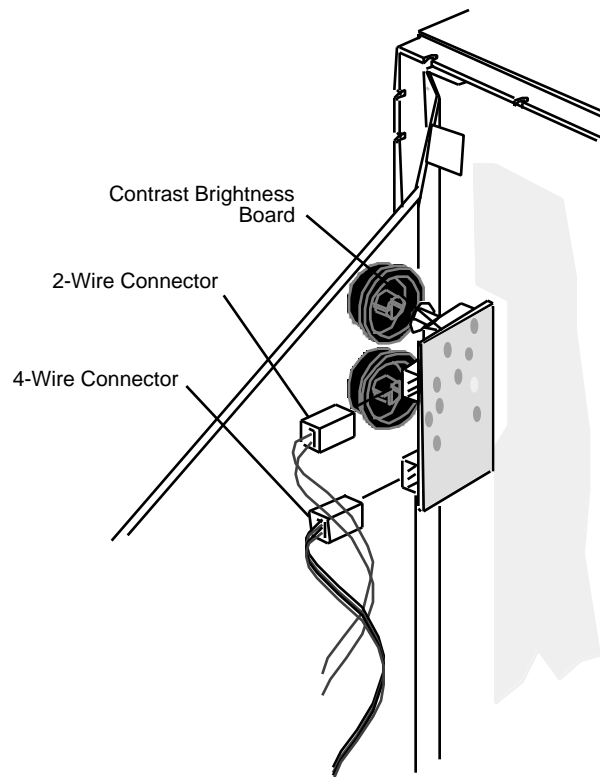

FIGURE 8
4. Disconnect the following connectors from the contrast brightness board (**Figure 8**) :